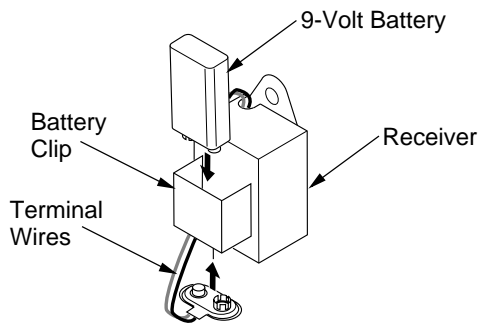

Figure 16 - Installing Battery in Receiver
- Locate the battery clip mounted on the back of the receiver (see Figure 16).
- Attach the terminal wires to the battery (see Figure 16).